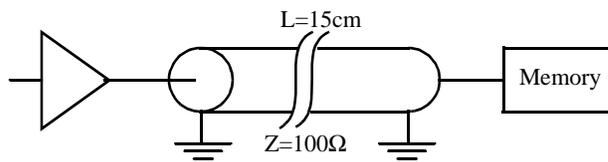

**Figure 0.2** RC clock-distribution network.
2. [C, SPICE, 4.x] You are designing a clock distribution network in which it is critical to minimize skew between local clocks ( $CLK1$ ,  $CLK2$ , and  $CLK3$ ). You have extracted the  $RC$  network of Figure 0.2, which models the routing parasitics of your clock line. Initially, you notice that the path to  $CLK3$  is shorter than to  $CLK1$  or  $CLK2$ . In order to compensate for this imbalance, you insert a transmission gate in the path of  $CLK3$  to eliminate the skew.